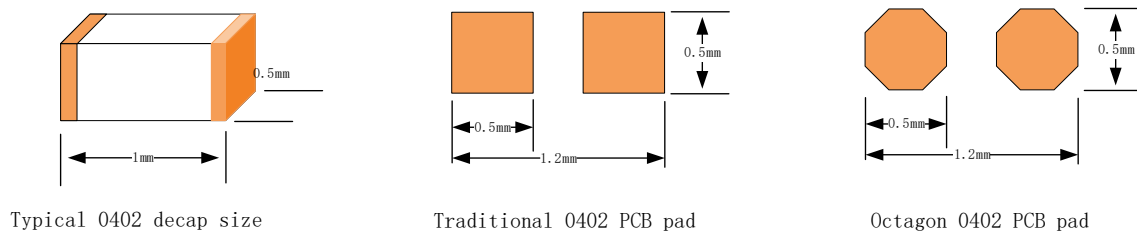
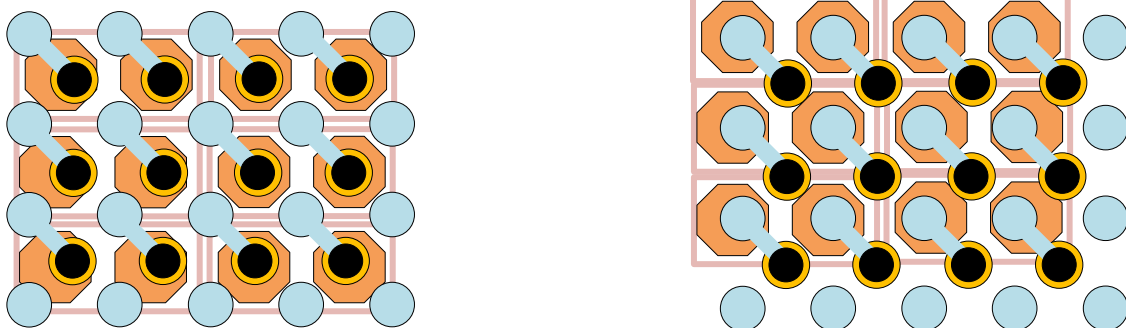

Figure 7-1 0402 Component size and PCB pad size
Figure 7-2 Octagon 0402 decaps placement
- Decaps with values equals to or lower than 1uF still need to be placed as close as possible to the Journey 3 power pin. As the J3's ball pitch is 0.65mm, special consideration is needed to put the 0402 decap close enough to the power pin. The Figure 7-1 gives suggested pad design for 0402 decap. Figure 7-2 gives suggestion for 0402 decap placement on the back side of J3's PCB footprint..